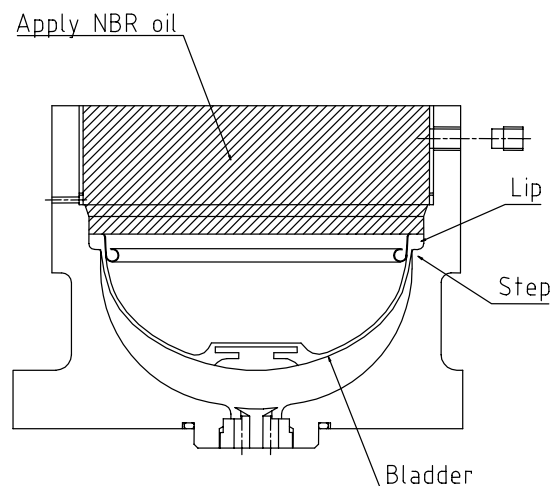

Fig. 2
- 4) Fit the O-rings (No.11) in place. Apply the enclosed NBR oil to the bladder and the shaded portion in the Fig.2.